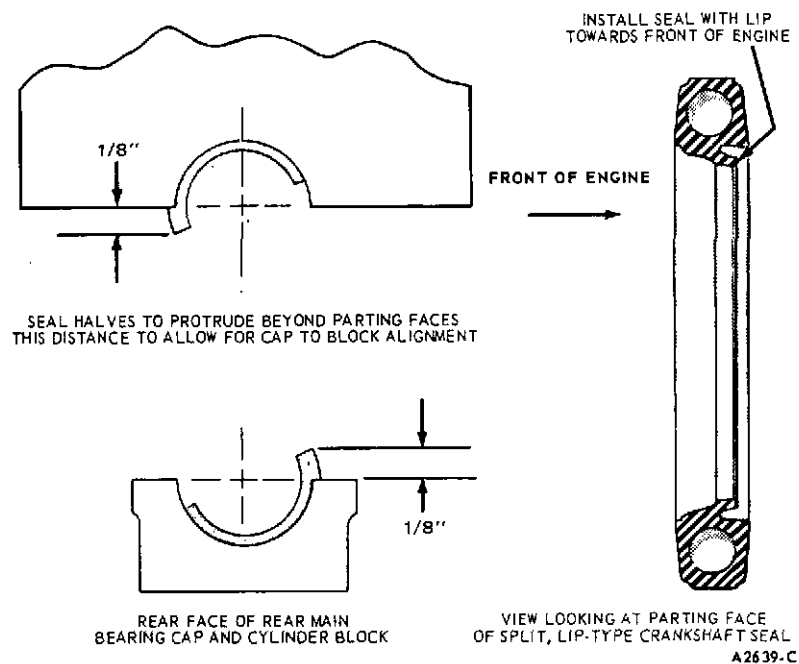

FIG. 52 Installing Crankshaft Rear Oil Seal
3. Carefully install the upper seal (cylinder block) into its groove with undercut side of seal toward the FRONT of the engine (Figure 52), by rotating it on the seal journal of the crankshaft until approximately 1/8 inch protrudes below the parting surface. **Be sure no rubber has been shaved from the outside diameter of the seal by the bottom edge of the groove.**
5. Install the lower seal in the rear main bearing cap with undercut side of seal toward the FRONT of the engine (Figure 52), allowing the seal to protrude approximately 1/8 inch above the parting surface to mate with the upper seal when the cap is installed.